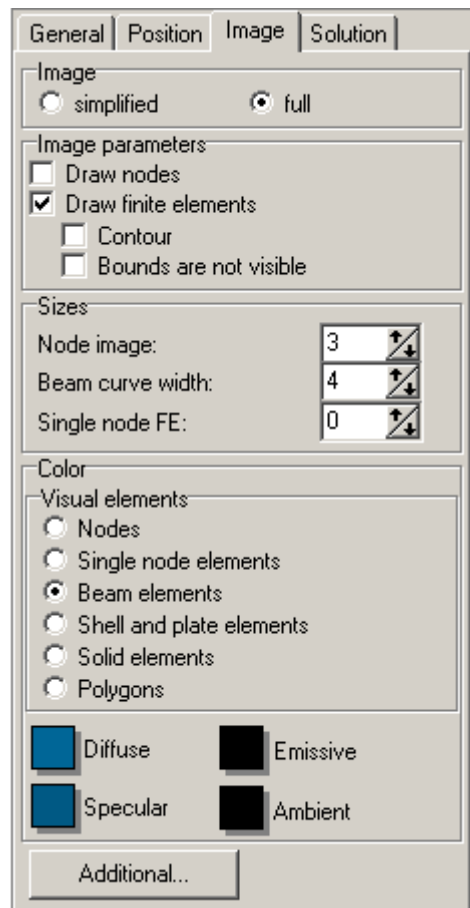

Figure 1.8.
8. Set the rest parameters according to the Figure 1.8.